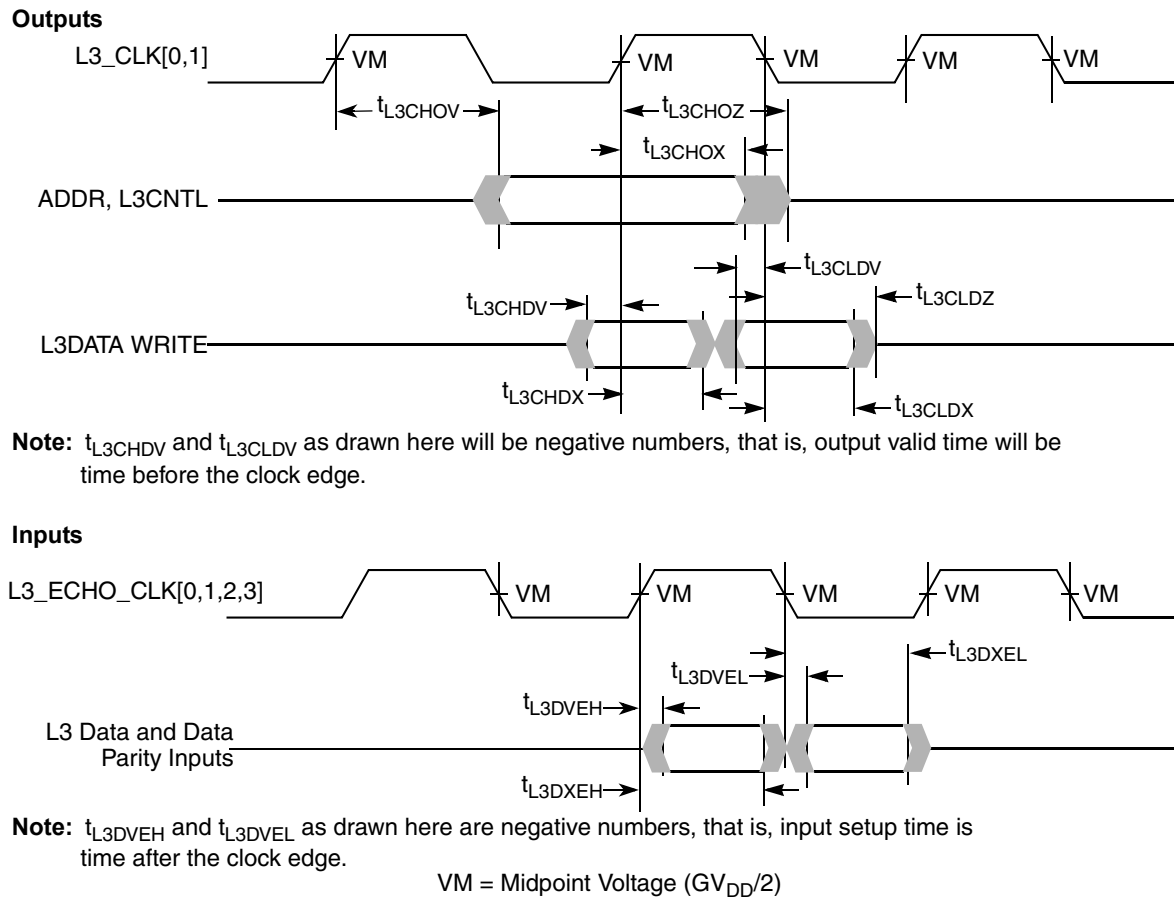

Figure 10. L3 Bus Timing Diagrams for L3 Cache DDR SRAMs
Table 13 provides the L3 bus interface AC timing specifications for the configuration as shown in Figure 9, assuming the timing relationships shown in Figure 10 and the loading shown in Figure 8.
2. For DDR, all input specifications are measured from the midpoint of the signal in question to the midpoint voltage of the rising or falling edge of the input L3\_ECHO\_CLK $n$  (see Figure 10). Input timings are measured at the pins.
3. For DDR, the input data will typically follow the edge of L3\_ECHO\_CLK $n$  as shown in Figure 10. For consistency with other input setup time specifications, this will be treated as negative input setup time.
6. For DDR, the output data will typically lead the edge of L3\_CLK $n$  as shown in Figure 10. For consistency with other output valid time specifications, this will be treated as negative output valid time.
Figure 10 shows the L3 bus timing diagrams for the MPC7457 interfaced to MSUG2 SRAMs.
3. All input specifications are measured from the midpoint of the signal in question to the midpoint voltage of the rising edge of the input L3\_ECHO\_CLK $_n$  (see Figure 10). Input timings are measured at the pins.
4. All output specifications are measured from the midpoint voltage of the rising edge of L3\_CLK $_n$  to the midpoint of the signal in question. The output timings are measured at the pins. All output timings assume a purely resistive 50- $\Omega$  load (see Figure 10).